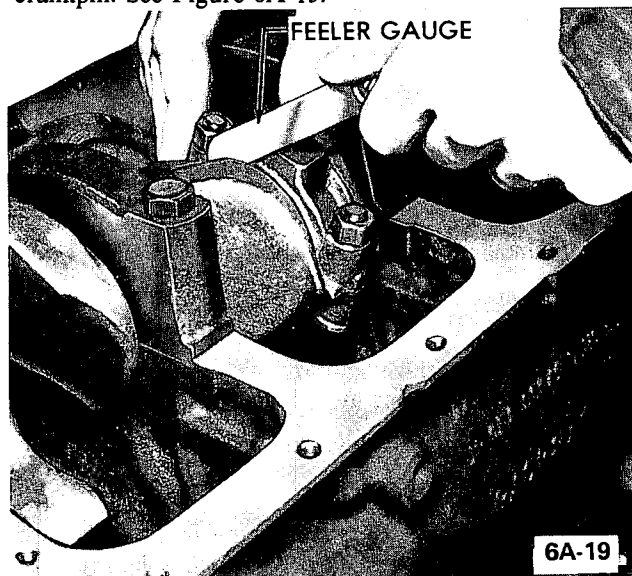

Figure 6A-15 Measuring Connecting Rod Side Clearance
11. Measure all connecting rod side clearances (see specifications), between the connecting rod cap and side of crankpin. See Figure 6A-15.